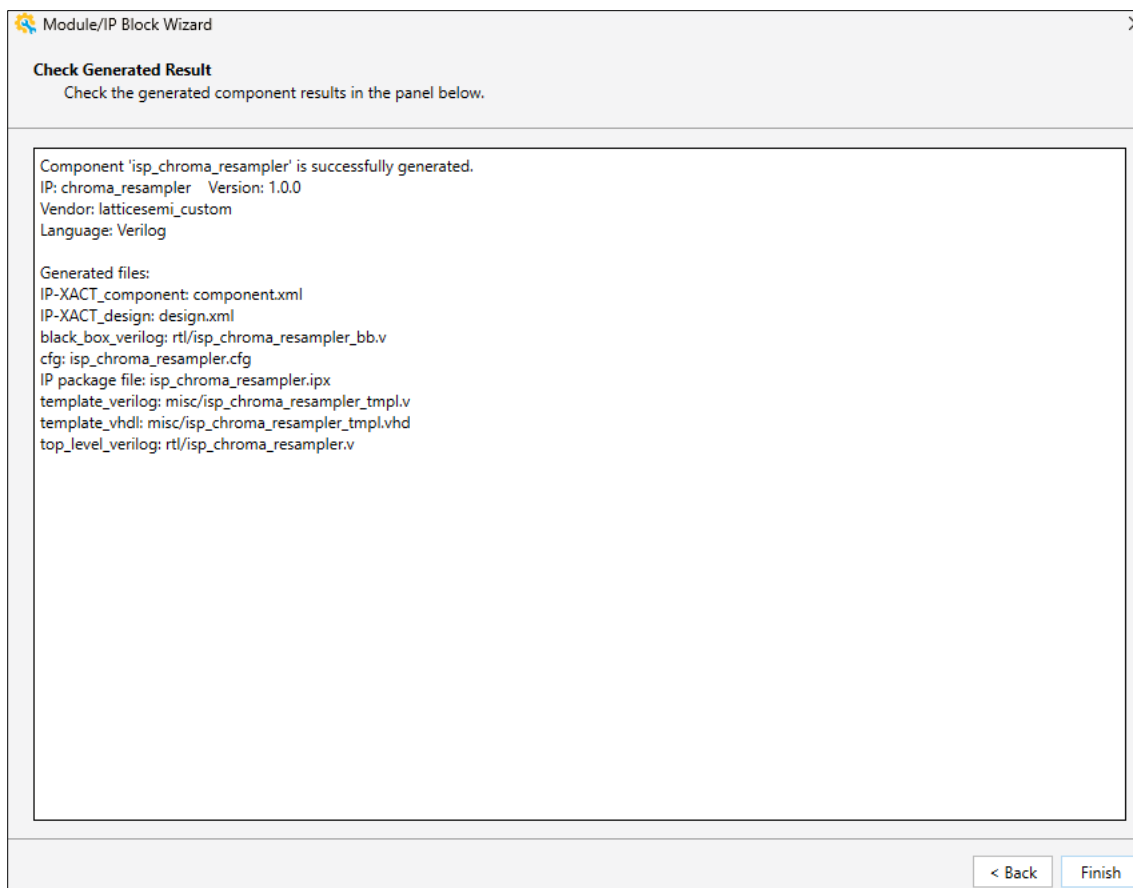

Figure 7.14. Chroma Resampler IP Check Generated Result Window
4. After the generation is completed, click **Finish** in the **Check Generated Result** window (Figure 7.14).